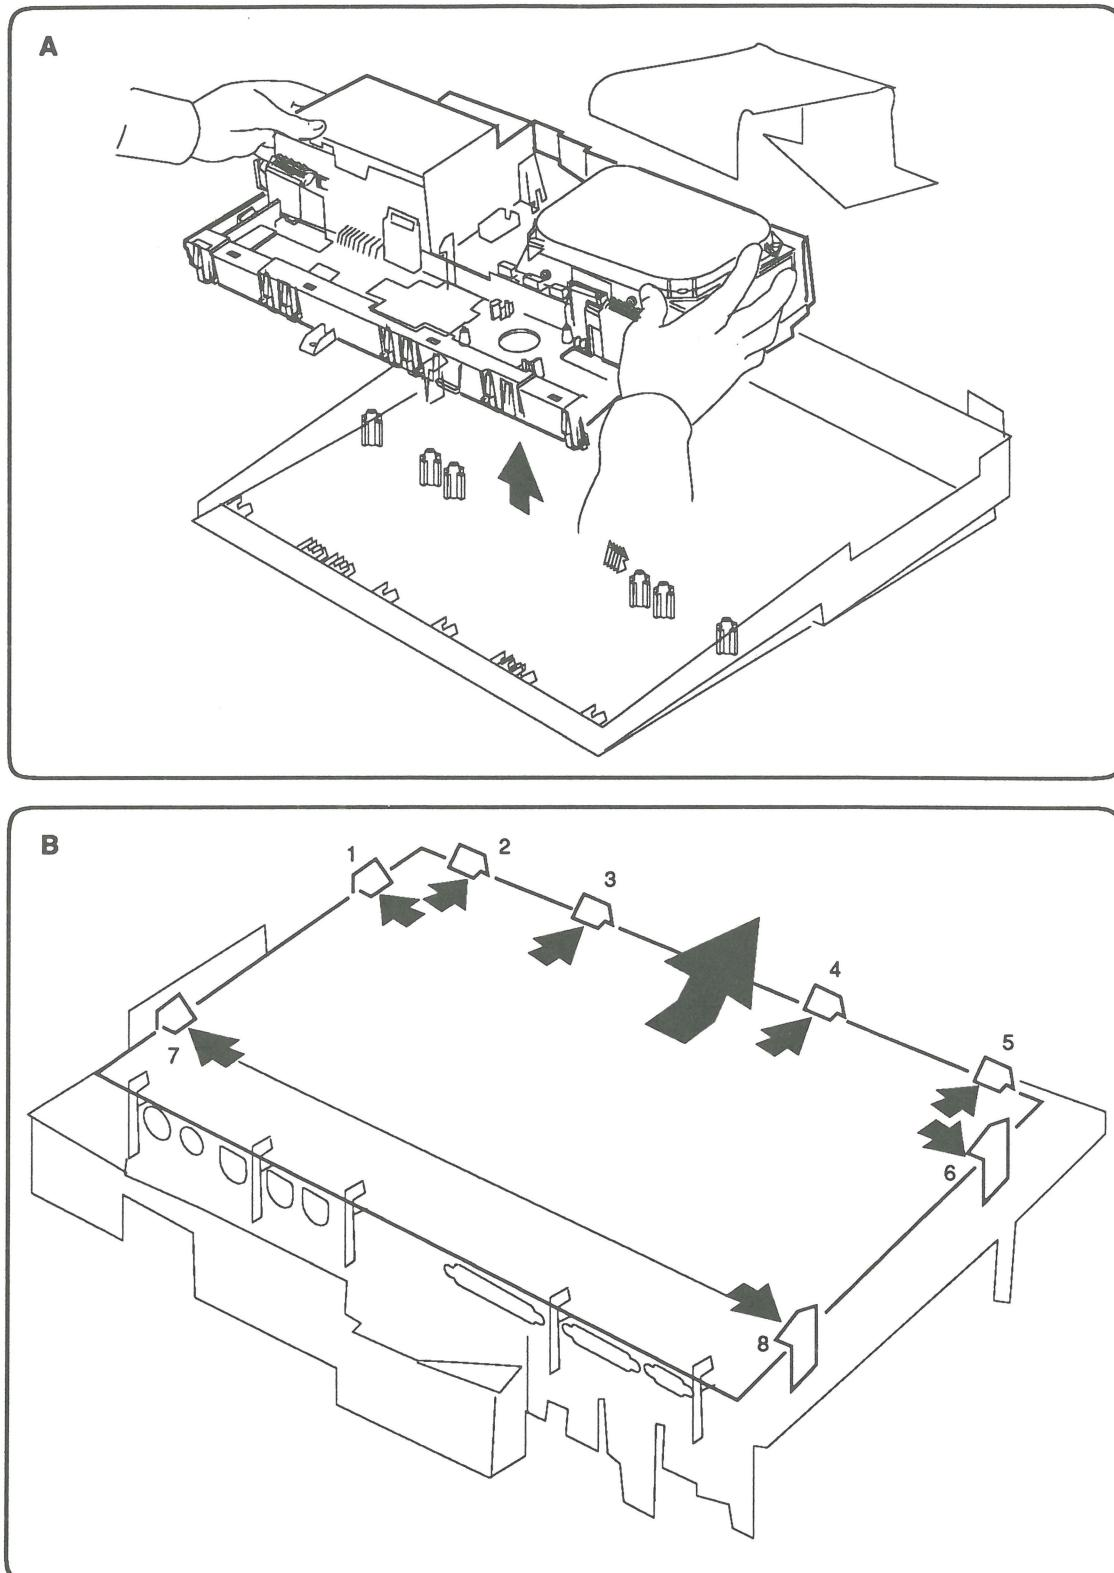

FIGURE 22
7. **Figure 22-A.** Lift up the front of the subframe and pull it toward you to remove it from the bottom case.
9. **Figure 22-B.** Release each of the plastic clips securing the logic board to the subframe. As you release each clip, gently lift the logic board and proceed to the next clip. Release the clips in the order shown in the illustration.